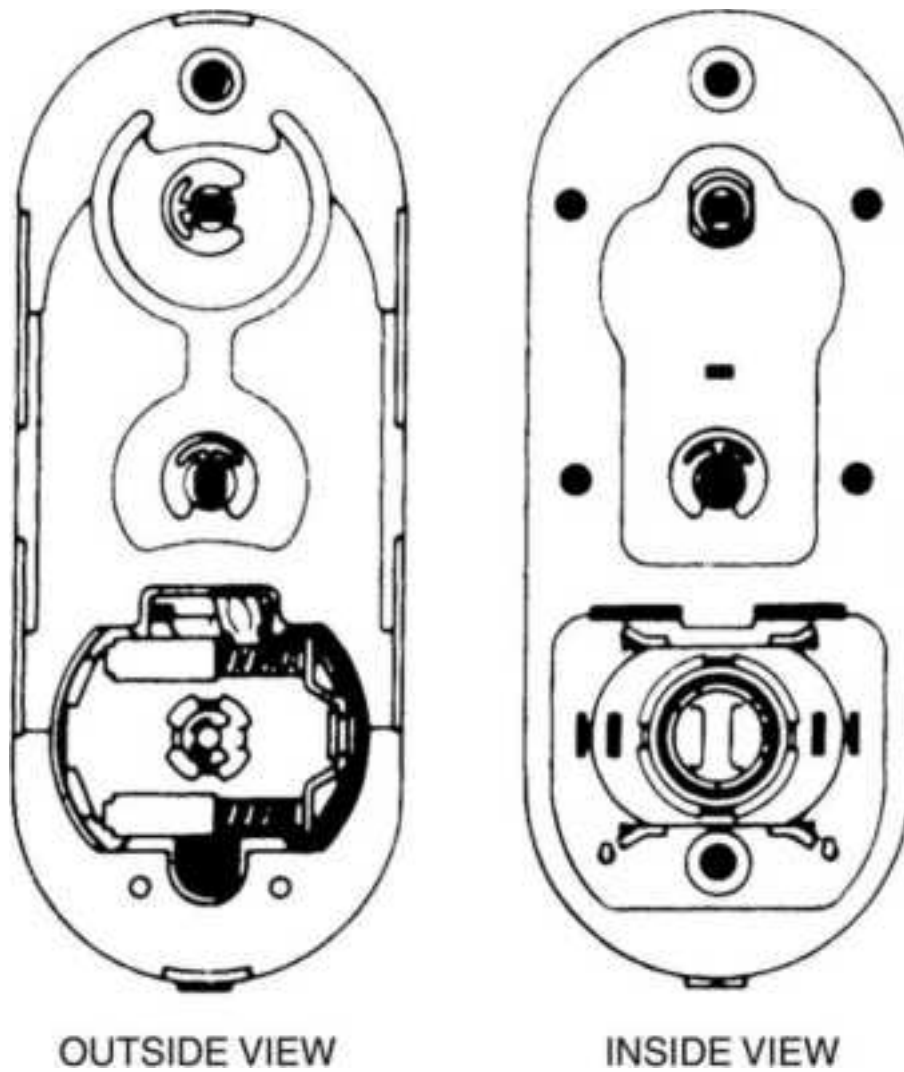

**Figure 13.70** Changing hand, Step 1.
1. Disengage the retaining rings (Fig. 13.70 ).